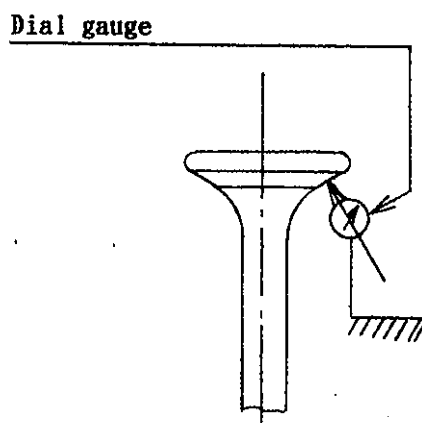

Fig. 6
- b) Set a dial gauge at right angles to the valve spindle seat surface. (As shown in Fig. 6)